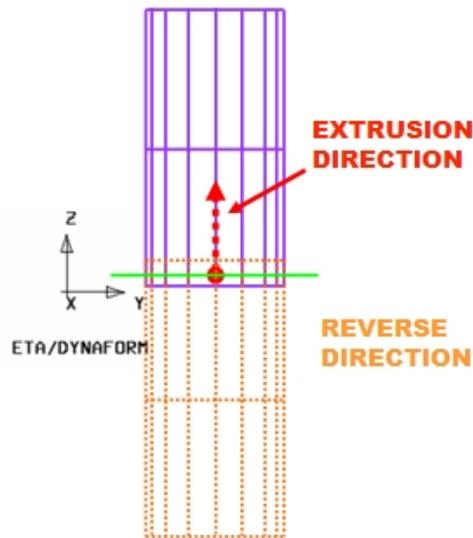

Figure 10.6.4 Reverse Locator Pin
**REVERSE** – This function enables the user to reverse the locator pin. An example is illustrated in Figure 10.6.4.